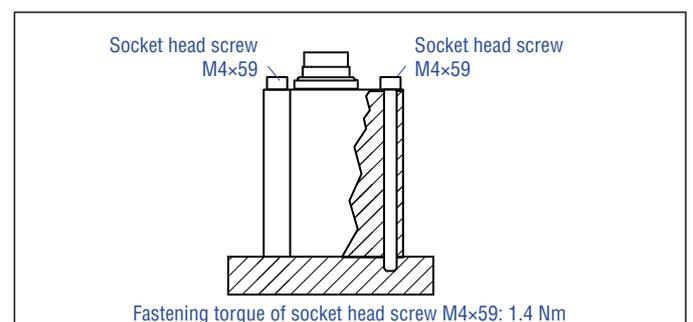

Fig. 22: Mounting with socket head screws M4×59
3. Mount the sensor electronics housing using the three M4×59 hexagon socket screws made of non-magnetic material. Tightening torque: 1.4 Nm (Fig. 22). Secure the screws before installation, e.g. with Loctite 243. Remove the three knurled nuts beforehand.
- Mount the sensor electronics housing to the sensor rod or HFP profile using three M4×59 hexagon socket screws made of non-magnetic material: Tightening torque: 1.4 Nm (Fig. 22). Secure the screws before installation, e.g. with Loctite 243. Remove the three knurled nuts beforehand.
- Mount the sensor via flange using the three M4×59 hexagon socket screws made of non-magnetic material. Tightening torque: 1.4 Nm (Fig. 22). Remove the three knurled nuts beforehand.